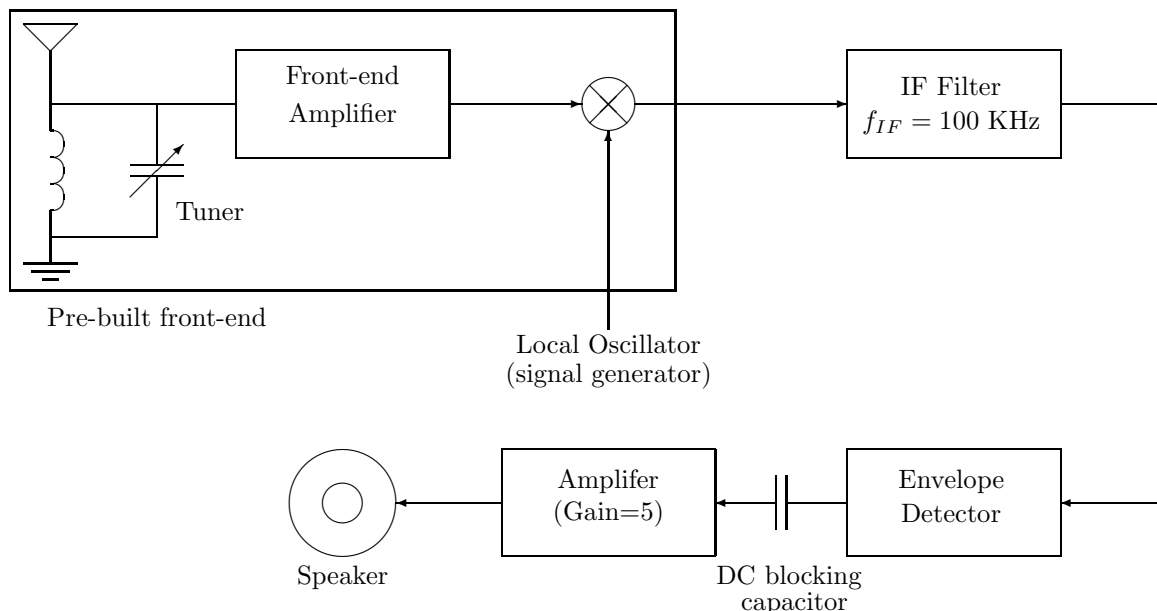
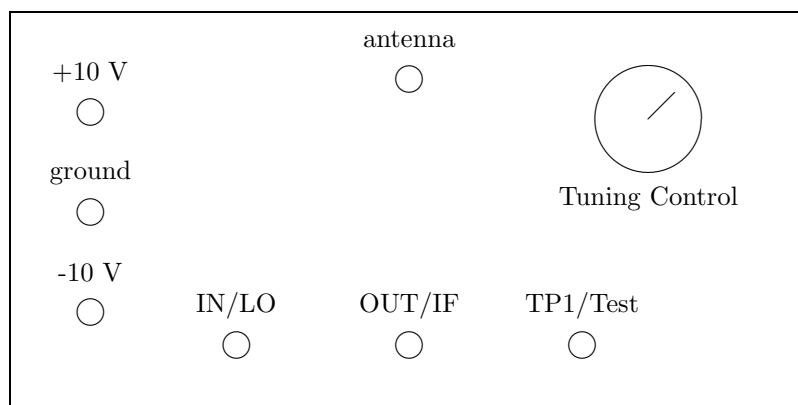

Figure 3.0.2: AM Superheterodyne Radio Block Diagram
Figure 4.5.1: Pre-built Radio Front-end
In this laboratory you will assemble and test a working superheterodyne AM radio consisting of a front-end (antenna, tunable RLC circuit and mixer), an IF filter, an envelope detector, a DC blocking capacitor and a speaker; see Fig. 3.0.2. The In-Lab data collection and Post-Lab data analysis will focus on the actions of the mixer, IF filter, envelope detector and DC blocking capacitor. Laboratory work to study the characteristics of the antenna and tunable RLC circuit in the front-end is included, but is *optional*. Assuming that you have successfully completed the Pre-Lab, you should be able to complete comfortably the required portion of the In-Lab work in a single 3-hour laboratory period. The EECS 216 Course Syllabus indicates a second make-up period for this lab (AM Radio); you should only need it for pursuing the optional portion of the lab.
- (a) Interconnect the IF Filter, the envelope detector, the DC blocking capacitor and the output amplifier as shown in Fig. 3.0.2.
- (a) Each bench is supplied with a pre-built front-end. Connect the pre-built front-end to your fully assembled circuit (see Fig. 3.0.2). The front-end contains the antenna/tuned RLC circuit described in the Pre-Lab, Section 2.2, a field effect transistor (FET) amplifier and a mixer (i.e. a multiplier). A drawing of the pre-built front-end box is shown in Fig. 4.5.1 below. The tuning control knob on the pre-build front-end box controls the variable capacitor setting of the front-end loopstick antenna/RLC